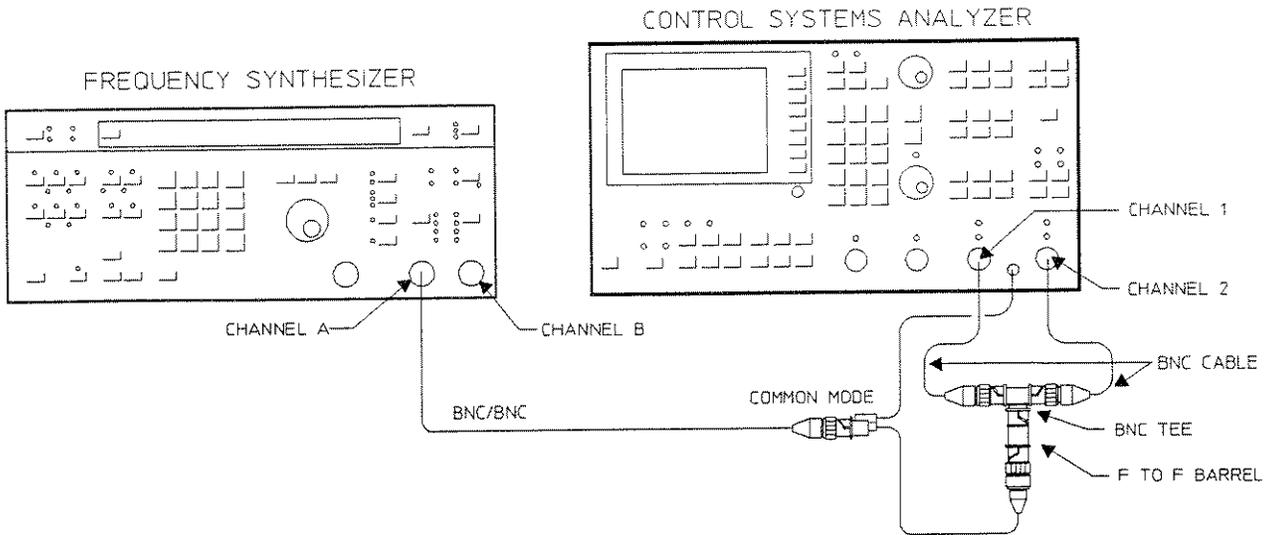
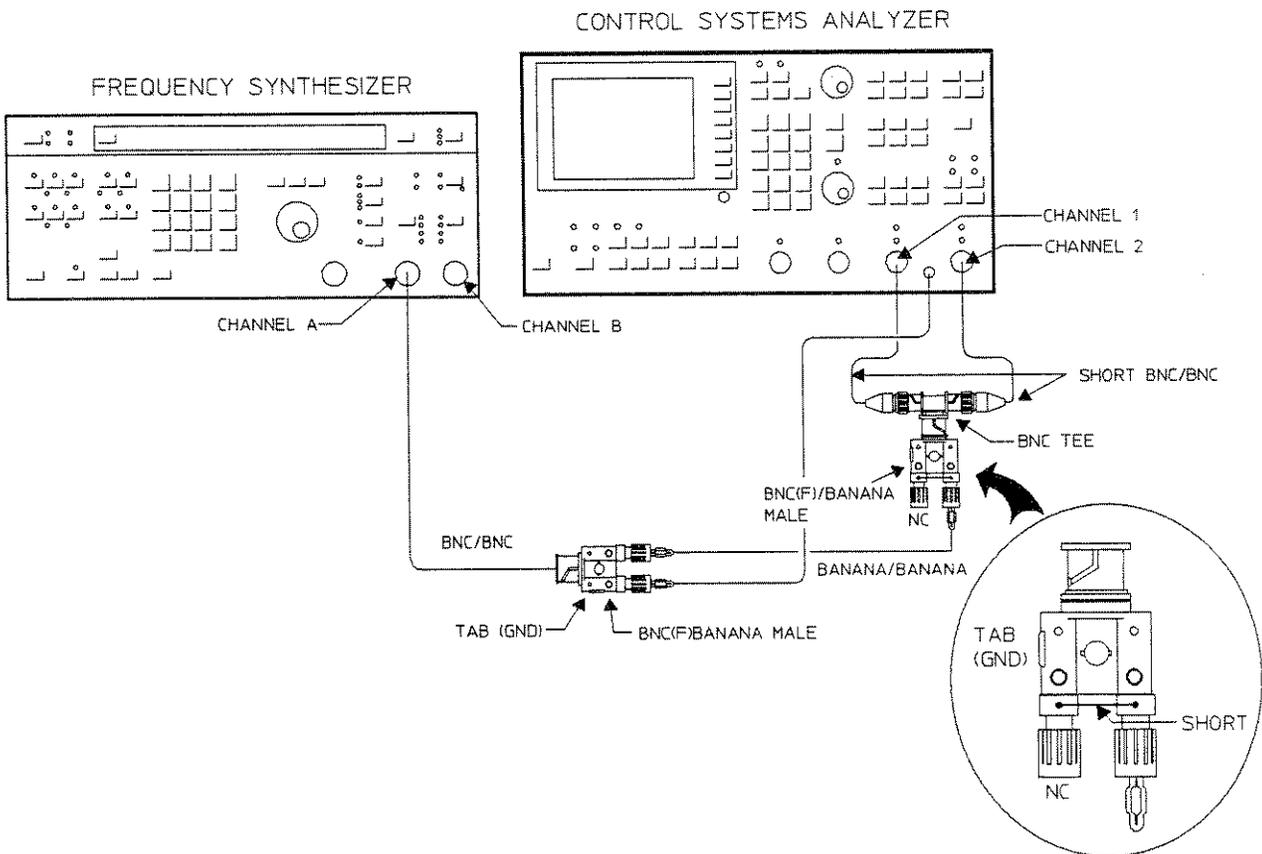

Figure 4-26. Common Mode Rejection Test Setup Two
Figure 4-27. Alternate Common Mode Rejection Test Setup Two
5. Connect the test instruments as shown in Figure 4-26 or Figure 4-27. For each of the frequencies listed in Table 4-19, perform steps a through c.